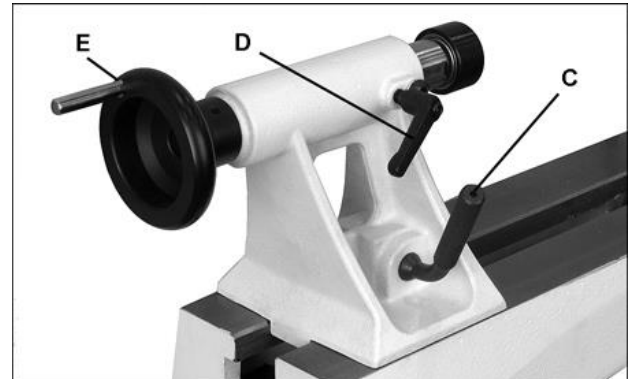

Fig 26
Turn the hand wheel (E, Fig 26) clockwise to move tailstock quill forward. Lock quill with the indexable knob (D).